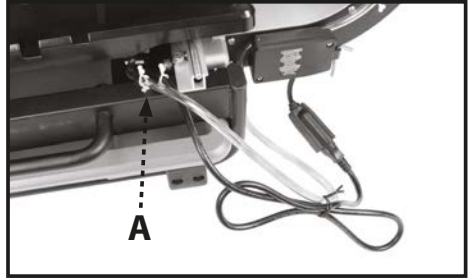

FIGURE 17
2. Place pump (14) in bottom of the bucket.
4. Secure slack hose and power cord to the snap ties provided on the rear of the saw (A, Fig.17).